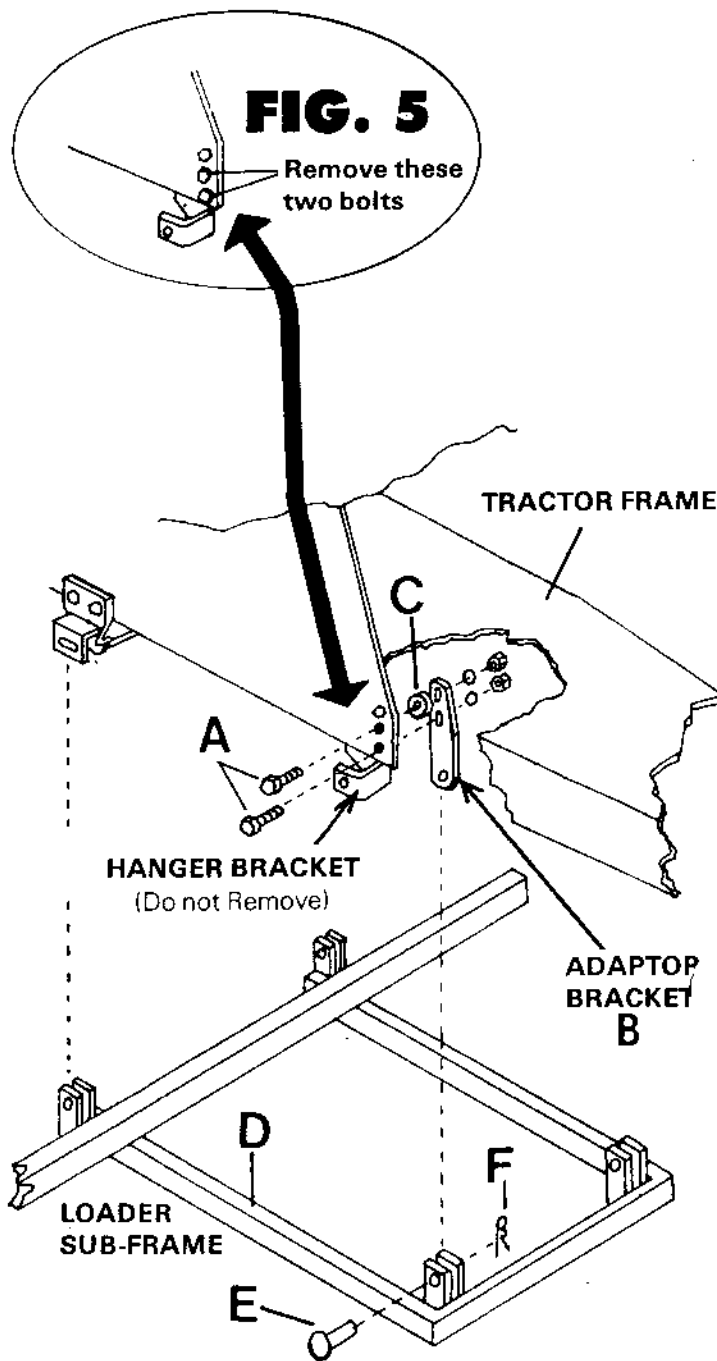

FIG. 6
Using holes as shown in Fig. 6. Fasten one adaptor bracket (B) to inside of tractor frame using hole as shown, with two 3/8 x 1 1/2" bolts (A), one adaptor bracket spacer (C) (used on top bolt only as shown) and lockwashers and nuts. Repeat this operation on other side of tractor.